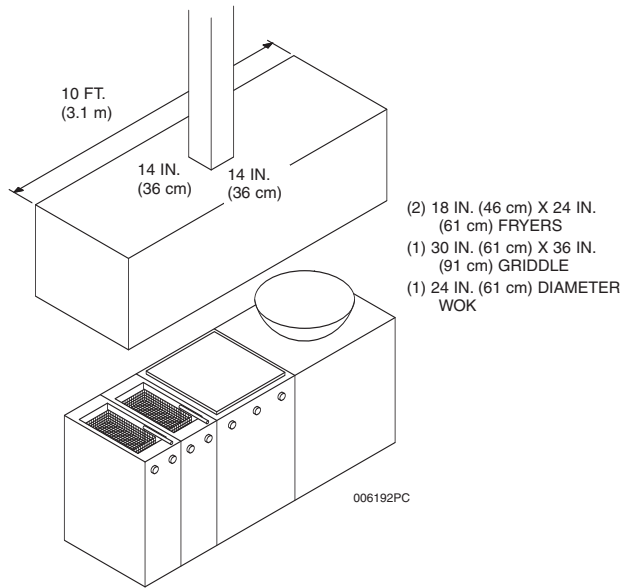

Figure 3-19.
The cooking area that requires protection consists of a single 56 in. (142 cm) perimeter exhaust duct, a 10 ft (3.1 m) long "V" bank plenum, (2) 18 in. (46 cm) wide x 24 in. (61 cm) fryers, a 30 in. (76 cm) x 36 in. (91 cm) wide griddle, and a 24 in. (61 cm) diameter wok. See **Figure 3-19**.